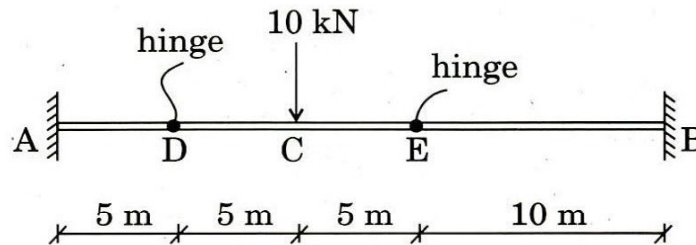

Figure 4
- Q2. (a) Find the deflection at C for the beam as shown in Figure 4.  $EI = \text{constant}$ . Use conjugate beam method.